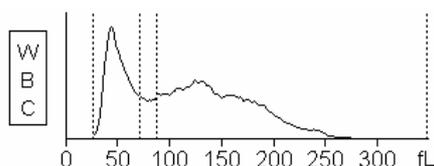

Figure 5-28 WBC gain too small
- When WBC histograms of most samples are similar to Figure 5-28, it implies too small a WBC gain and you need to increase the gain appropriately.